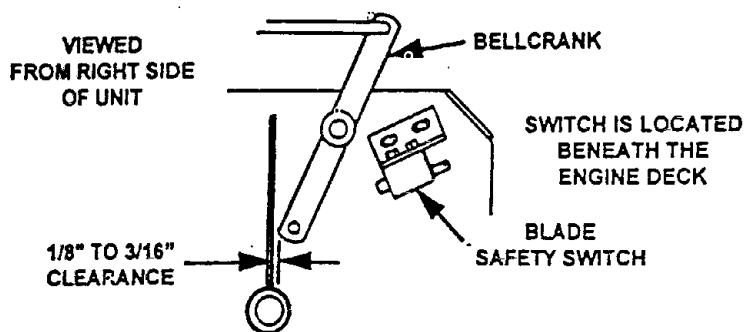

FIG. 11
- With blade drive engaged, adjust the linkage length to obtain 1/8" to 3/16" clearance between the lower end of the bellcrank and the axle support gusset (See Figure 11).